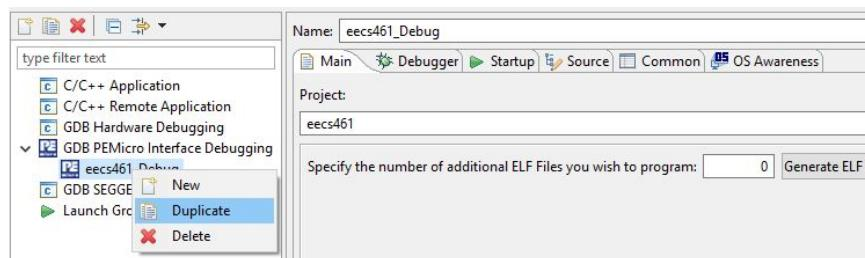
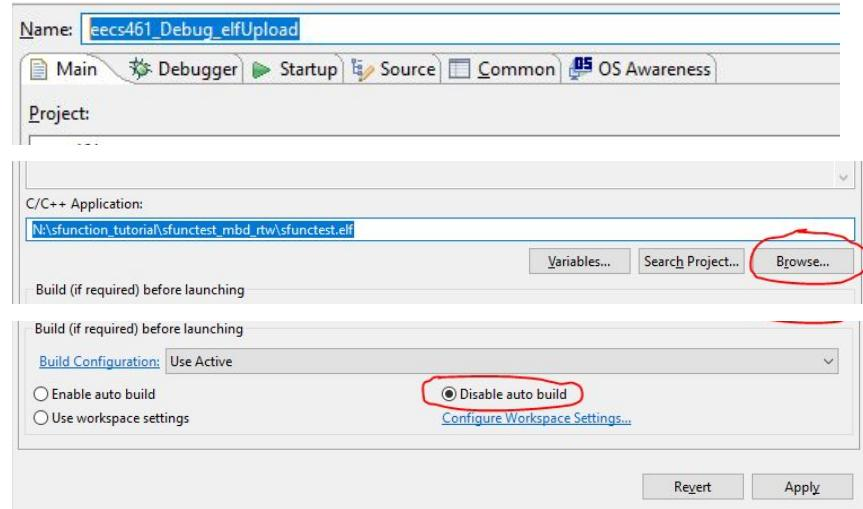

Figure 14: Right click and duplicate eecs461\_Debug.
Figure 15: eecs461\_Debug\_elfUpload.
- (d) Right click and duplicate eecs461\_Debug as in figure 14.
- (e) Change the name from eecs461\_Debug (1) to eecs461\_Debug\_elfUpload.
- (g) Disable auto build and click Apply. The code is now running on your board. See figure 15.